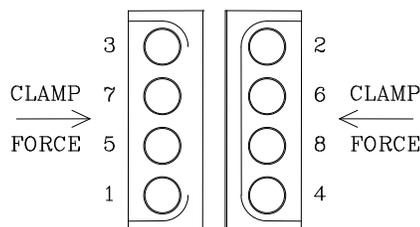

Fig. 1
- []3. Slide the six HHCS (25) through the clevis (17). Slide the six o-rings (39) over the threads of the bolts and down onto the back face of the clevis bracket.
- []4. Install the six o-rings (83) onto the six twelve-point fasteners (74) using tool 010-0672 (85).
- []5. Install the two o-rings (35) into the grooves in the azimuth housing (1).
- []6. Test fit the two UHMW backup rings (52) on the outside diameter of the end plates (5). The backup rings should be slightly loose around the diameter. If they are not, stretch them slightly. When the backup rings are installed in the grooves of the azimuth housing (1) above the o-rings (35), they should be loaded against the inside wall of the groove.
- []7. Use liberal amounts of Valvoline® Val-plex EP® grease to “glue” the needle roller bearings (29) to the inside walls of the end plates (5). Load fifty of the rollers into each end plate.
- []8. Apply a film of Valvoline® Val-plex EP® grease to the threads of the thirty-two SHSS (23) and install the screws in the two torque rings (6). Thread the screws in until they are flush with the top and bottom faces of the torque rings.
- []9. Install the o-ring (34) and the lip seal (38) into the base flange (15) as shown in the assembly drawing.
- []10. Loosely install the three threadlock pins (51) and the three SHSS (20) into the three threaded holes in the spindle nut (8).
- []11. Using the arbor press, if necessary, press bearing retainer block (55) into the spindle end cap (72). Use item (91) as needed.
- []12. Using Valvoline EP grease to lightly lubricate thrust washers (31) so that they adhere to the spindle nut (8) and bearing retainer block (55). Lightly lubricate the thrust bearings (30) and set them with the thrust washers on spindle nut (8) and bearing retaining block (55).
- []13. Apply loctite 271 (90) to the eight SHCS (80) and install the rotor vanes (73) onto driveshaft (71). Use a small clamp seat the rotor vanes together tightly in the driveshaft. Torque SHCS (80) as indicated on assembly drawing and in the sequence shown in Fig. 1.